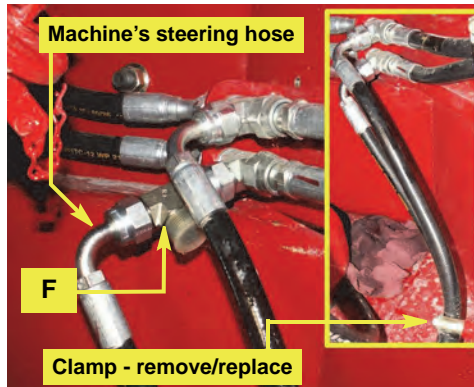
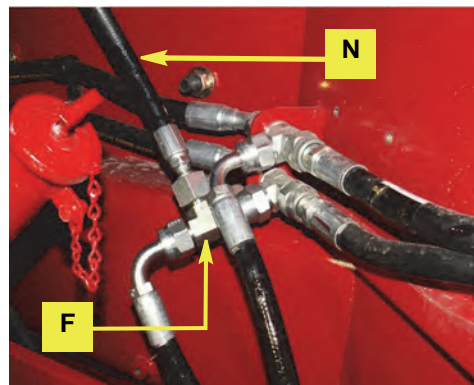
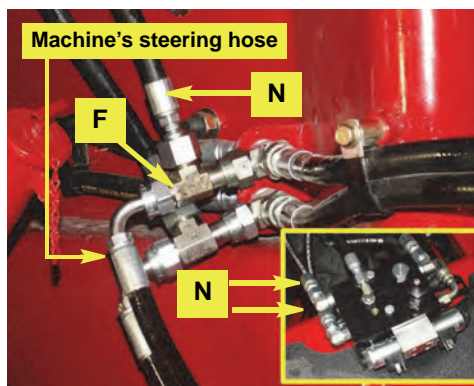

Figure 6b: Steering run-tee installed, machine's hose reconnected
Figure 6c: Steering hose (first) installed at run-tee
Figure 6d: Steering hose (second) installed at run-tee and, inset, steering hoses connected at steering block
NOTE: Disconnecting/reconnecting the machine's steering hoses can be made easier by removing the hose clamp (Figure 6b inset). Refit the clamp on completion.
- b. Disconnect the machine's lower steering hose, install a run-tee **F** and (re)connect the machine's steering hose to the open 'T' end of **F** (Figure 6b).
- c. Install steering hose **N** between the stem of run-tee **F** (Figure 6c) and fitting **B** in the **A** or **B** port in the hydraulic steering block (Figure 6d inset).
- d. Repeat steps b and c for the upper steering hose (Figure 6d). Refit the hose clamp if removed (Figure 6b inset).